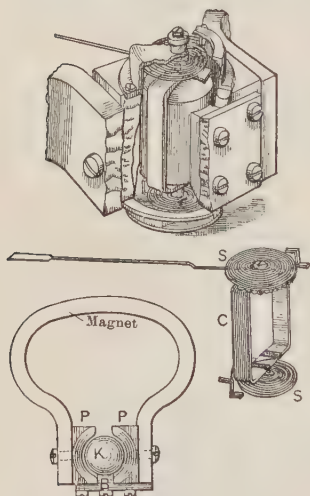

FIGURE 381. — PARTS OF A WESTON GALVANOMETER.
**245. The Weston Galvanometer.** — This type of instrument (Figure 381) is a modification of the d'Arsonval galvanometer. It has a coil, *C*, suspended by jeweled bearings so that it can turn freely about a stationary iron core, *K*, placed between the poles, *PP*, of a permanent magnet. The motion of the coil is limited by two hairsprings, *SS*, attached to it. The current to be indicated enters the coil by one spring and leaves by the